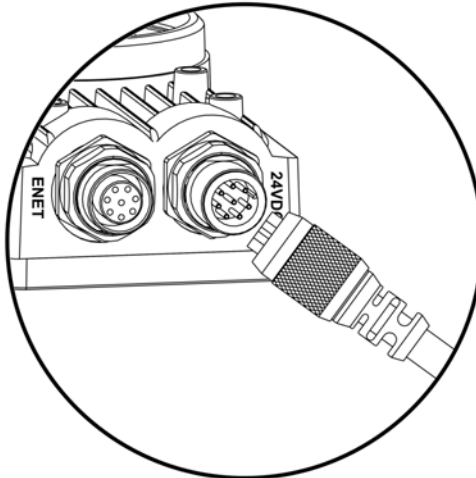

Figure 3-8: Connecting the I/O Expansion Module to the Sensor
5. Plug the M12 connector of the I/O Module cable into the sensor's 24VDC connector (Figure 3-8).